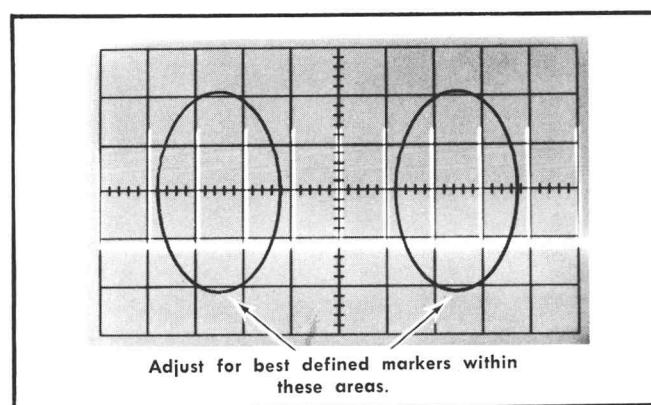

Fig. 5-1. Astigmatism check, typical display.
- CHECK—Markers should be well defined within the areas indicated in Fig. 5-1 with optimum setting of the FOCUS control.